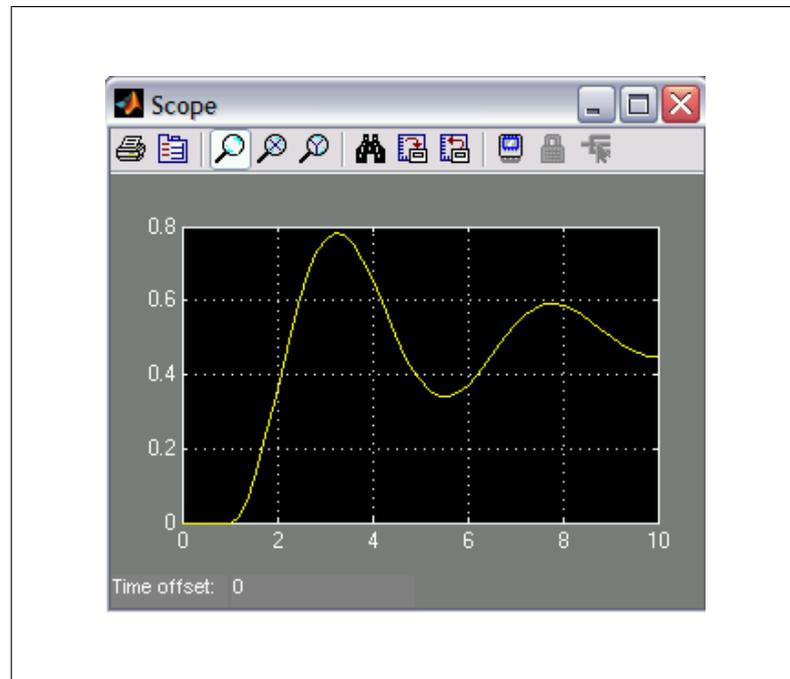

Figure 4: Step response
- 9 Check the response of the system from the Scope. Double click on the scope block to open it up. Press the autoscale button, which appears in the shape of binoculars in the toolbar, to make the graph look better. You should observe the graph in Figure 4.